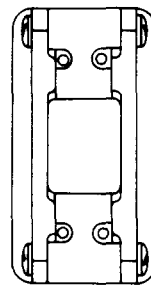

Fig. 14—419D Plug
**2.14 419D:** The 419D (Fig. 14) is a red, molded, plastic plug having four terminals. The 419D plug contains a 470-ohm resistor between terminals 3 and 4 and a 3000-ohm resistor between terminals 1 and 2. This prevents the E6 Voice Frequency Repeater from singing when the repeater is not terminated.